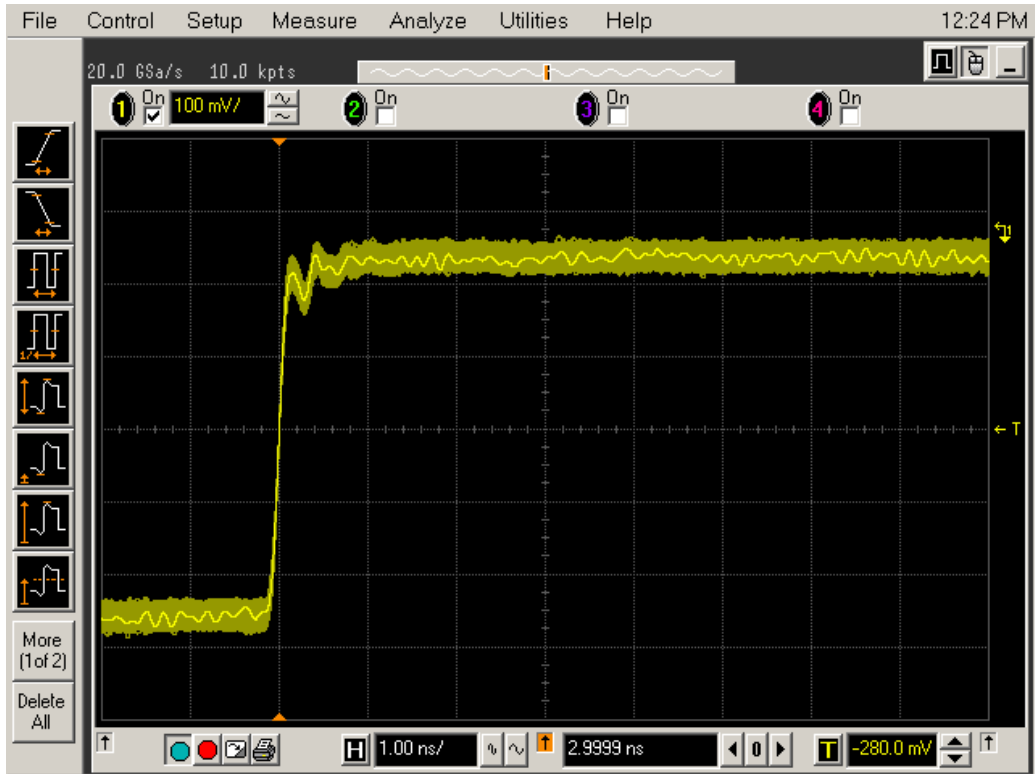

Figure 92 Good Connection Waveform Example
- 4 Set the horizontal position to approximately 3 ns. You should see a waveform similar to that in Figure 92 below.